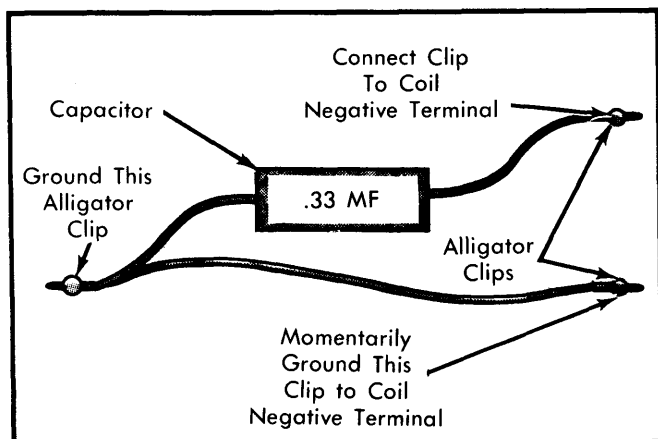

Fig. 3 Special Jumper Wire Assembly for Grounding Coil Negative Terminal
- 2) Remove coil secondary wire from distributor cap, and hold $\frac{1}{4}$ " from a good ground. Prepare a special jumper wire assembly as shown in Fig. 3. With ignition switch turned on, momentarily touch special jumper wire to ground and coil negative terminal. A spark should be obtained at secondary wire.